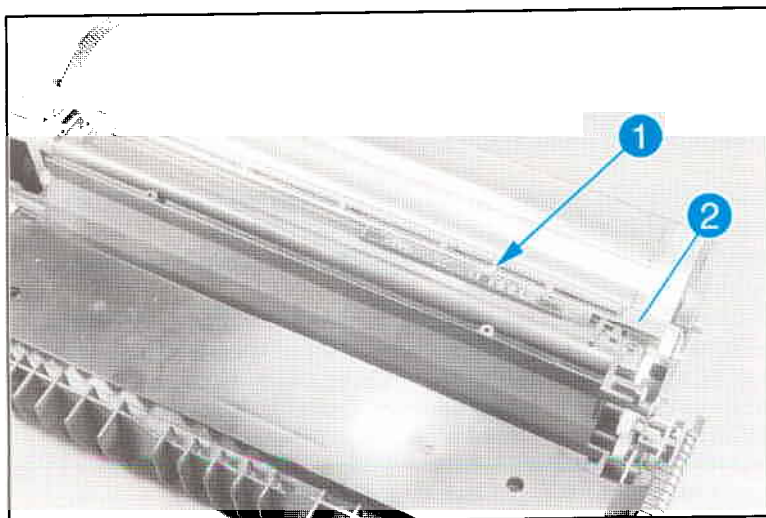

Figure 7-12 Print Drum Reflectance Sensor
3. Remove the screw (see Figure 7-12, item 1).
4. Remove the Print Drum Neutralizing Corona housing (see Figure 7-12, item 2).